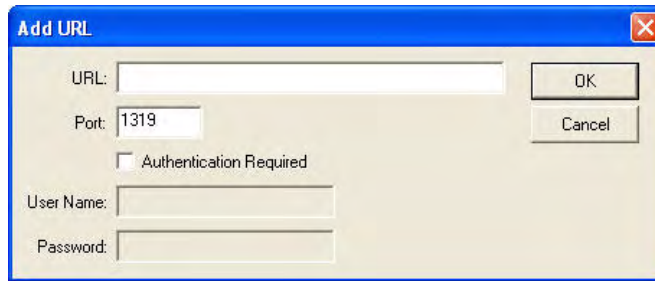

FIG. 49 NetLinx Studio - Add URL dialog
9. In the *URL Listing* dialog, click **Add** to access the *Add URL* dialog, and enter the TPI-PRO/DVI's IP address in the **URL** field (FIG. 49).